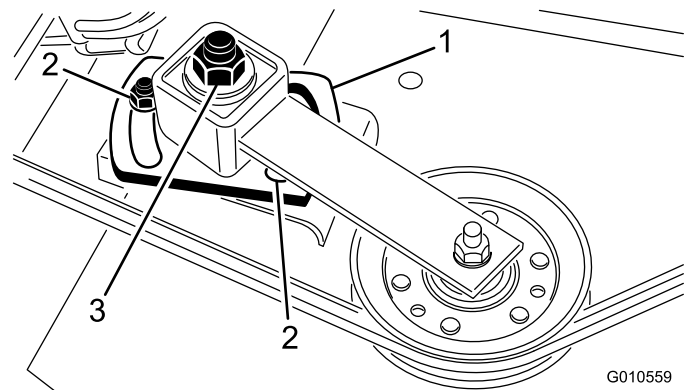

Figure 30
- Use a socket and torque wrench to tighten the idler adjusting nut to 35-40 ft-lb (47-54 N-m) (Figure 30).